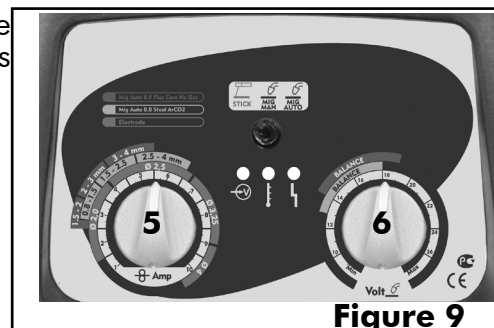

Figure 9
6.3 SOUDAGE MIG/MAG/MOG SYNERGIQUE (RÉF. FIGURE 9)